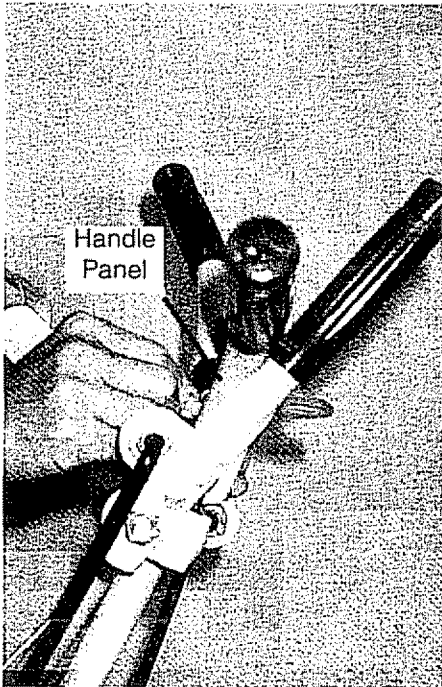

FIGURE 9
1. See Fig. 9: When the knob is through the handle panel, straighten the throttle cable so the throttle control body can be pushed through the panel slot.